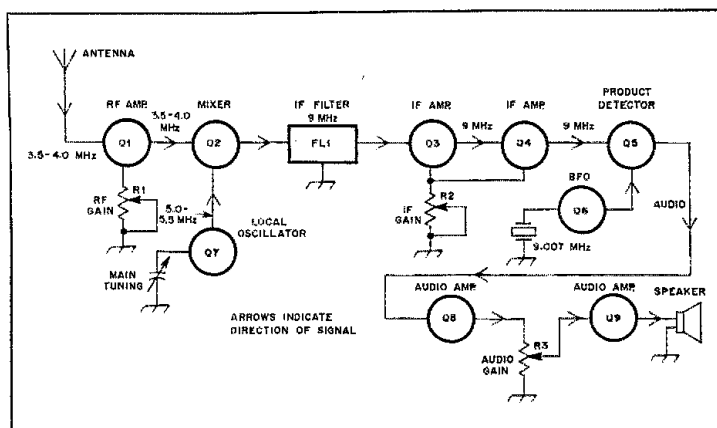

Fig. 5 — Block diagram that shows the lineup of a single-conversion superheterodyne receiver. The function of the stages is treated in the text.
What is a superheterodyne radio (often called a "superhet")? The general scheme of the critter is shown in Fig. 5. At the left, we find an RF amplifier. It builds up the signal level from the antenna and helps to separate the stations by way of *selectivity* of the tuned circuits. If the receiver includes an RF gain control (R1), it is used to vary the gain of Q1. Next, the signal, say, 3.7 MHz, is routed to the mixer, Q2. The signal from Q1 is *mixed* with the one from our local oscillator, Q7. The output from the mixer can be either the sum of the two frequencies (9 MHz) or the difference (1.6 MHz). For reasons beyond this discussion we have chosen the higher intermediate frequency (IF). The local oscillator can be thought of as a tunable low-power transmitter that creates a CW carrier. In reality, it is not a signal unless intelligence is contained on it — at least by definition. If we were to be precise in describing the local-oscillator output energy, we would call it RF voltage.
Now that we have increased the signal level from FL1, we are ready to detect or *demodulate* it. This brings us to the product detector, Q5, of Fig. 5. Generally speaking, it functions as does the mixer, Q2. The major difference is that the IF of this stage is at audio frequency rather than at RF. Therefore, the local oscillator (BFO Q6) is offset in frequency by an audio amount. For CW reception it is usually between 700 and 1000 Hz, depending on the designer's philosophy. Thus, our BFO crystal can be 700 Hz above or below the 9-MHz IF for CW reception. The offset is about 1.5 kHz for SSB reception. No BFO is needed for AM or FM reception, but special detectors are required. A product detector can be used for AM reception, however, if the AM signal is tuned in as one might tune in an SSB signal (tuned until no whistle from the AM carrier is heard). A wider IF filter is desirable for AM reception so that better fidelity will result.
The circuit of Fig. 5 is that of a single-conversion superheterodyne receiver. Double- and triple-conversion receivers are common as well. They offer some advan-
basic circuit is of the type shown in Figs. 5 and 6.